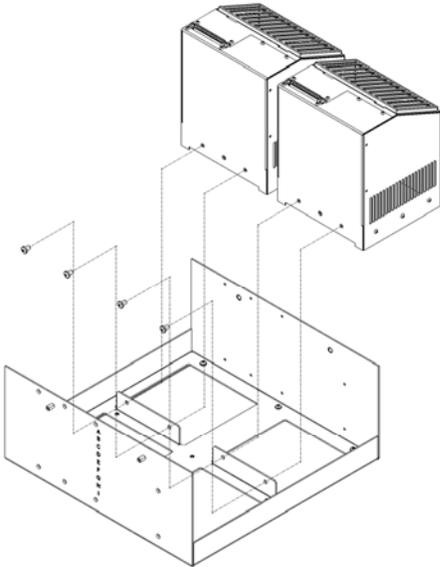

Figure 7. Mount LED Arrays in Cradle with M5 x 8-mm Screws
2. Mount the first two LED Arrays into the Cradle assembly using four M5 x 8-mm screws (39166), as shown in Figure 7.
5. Loosely install the Hand Knobs (39274) and Washers (40530) onto the Cradle assembly, as shown in Figure 7.